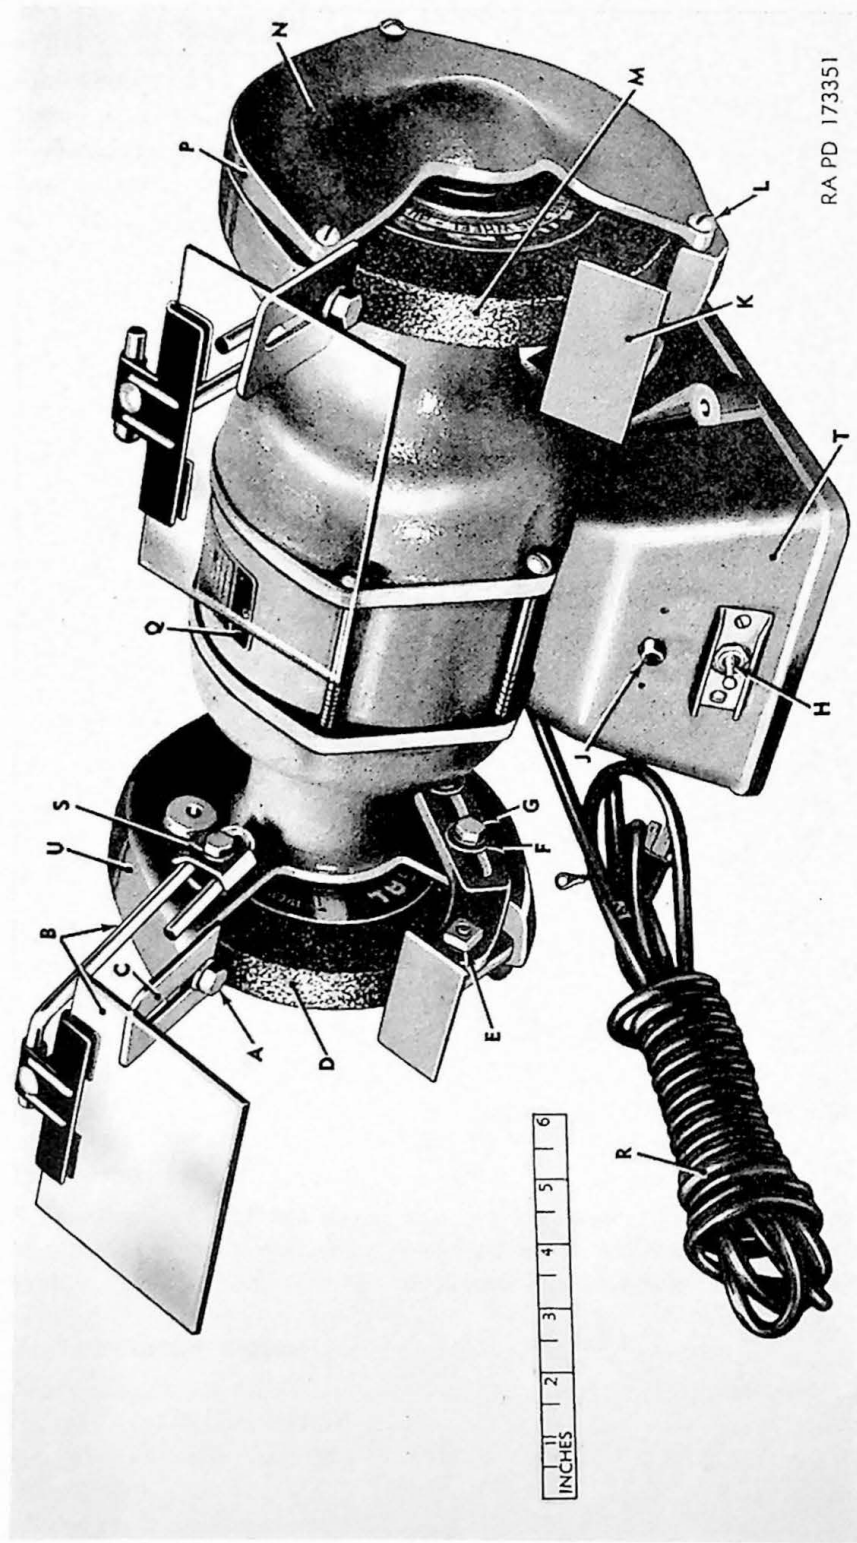
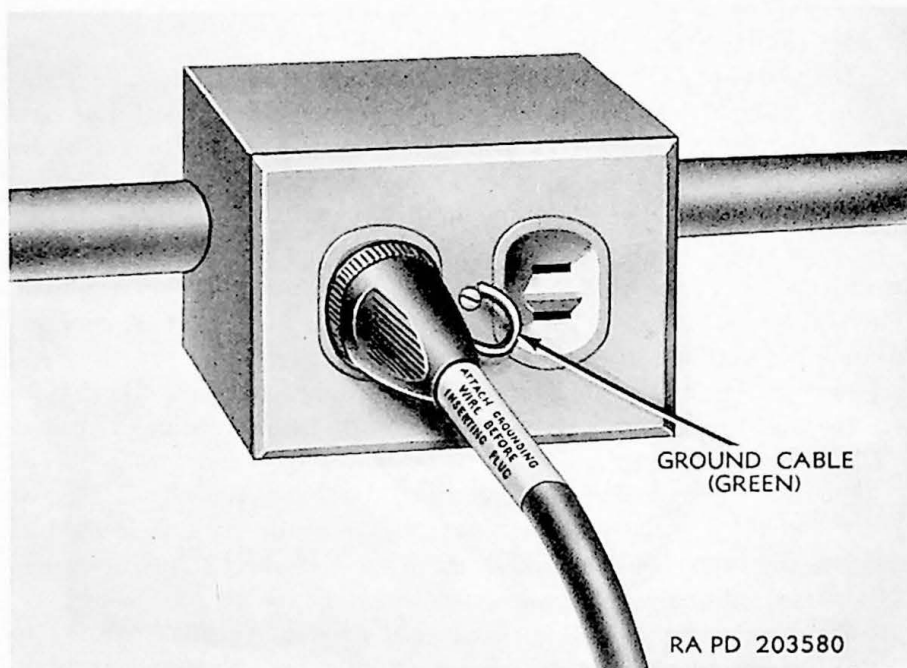

Figure 1. Three-quarter right-front view of bench grinder.
Figure 2. Connecting plug connector to 110-volt power receptacle.
The bench grinder, Models S3984 and S5493 (fig. 1), is designed for miscellaneous grinding of metal objects, cutting tools, etc. The bench grinder consists of two grinding abrasive wheels 40-W-368-5 (D, fig. 1) and 40-W-368-10 (M). One grinding abrasive wheel is of a coarse grain and the other abrasive wheel is of a fine grain. An additional grinding abrasive wheel 40-W-368-20 is of a medium grain and is included in the equipment. To protect the operator from sparks and abrasive particles during grinding operations, two 4 x 6-inch shatterproof glass eyeshields with adjusting arms 40-S-1746-800 (B) are provided with the bench grinder. A tool rest is mounted in front of each grinding abrasive wheel to rest and guide the work during the grinding operations. The right- and left-hand wheel guards are provided to protect the operator from cracked or broken pieces from a defective grinding abrasive wheel. The motor armature shaft is mounted on permanently sealed ball bearings which do not require lubrication. To prevent damage to the motor from overloads, the bench grinder is equipped with a thermal cutout overload switch with reset button, mounted on the front of the bench grinder base (T), which breaks the internal electric circuit of the motor. This shuts down the motor in the event that the bench grinder is overloaded. The reset button, of the overload switch, permits resetting of the thermal cutout overload switch. The bench grinder consists of a single-phase 60-cycle 110-volt $\frac{1}{2}$ -horsepower motor.
a. *Uncrating and Checking.* The complete bench grinder is shipped in one crate. Care should be taken not to damage the bench grinder or equipment when opening the crate. Remove and check contents of crate with items listed in figure 1 to determine if all items are present.
- (1) Inspect for cracked or broken parts.
- (2) Inspect for stripped threads, cracked or broken grinding abrasive wheels, damaged cord or connector, or cracked shatter-proof glass eyeshields. If such parts are damaged, they must be replaced.
Note. The key letters noted in parentheses are in figure 1, unless otherwise indicated.
g. Inspection. Connect the plug connector to a 110-volt power supply receptacle and connect ground connection (fig. 2). Operate the bench grinder by moving the toggle on the toggle switch (H, fig. 1) to
An off and on toggle switch (H, fig. 1), located on the front of the bench grinder base (T), controls the starting and stopping operations of the bench grinder.
A thermal cutout overload switch with reset button (J, fig. 1), mounted on the front of the bench grinder base, just above the off and on toggle switch, is provided for the purpose of shutting down the
110-volt power supply receptable (par. 9) and secure ground connections (fig. 2). Move the toggle on the toggle switch to the ON position, and hold the workpiece to be ground firmly on the tool rest and against the grinding abrasive wheel. Slowly move workpiece back and forth on the grinding abrasive wheel with a steady even pressure. Do not hold the workpiece in one position on the grinding abrasive wheel or apply excessive pressure. Keeping the workpiece in one position on the grinding abrasive wheel will cause the grinding abrasive wheel to be worn down unevenly. Applying the workpiece to the grinding abrasive wheel with excessive pressure will result in the workpiece being burnt and discolored.
b. Selecting Grinding Abrasive Wheels. Use a coarse grain grinding abrasive wheel 40-W-368-5 (D, fig. 1) for coarse grinding, which is required for removal of a considerable amount of metal. Use a fine grain grinding abrasive wheel 40-W-368-10 (M) for fine grinding and when a smooth finish is required. For medium grinding, use a medium grain grinding abrasive wheel 40-W-368-22.